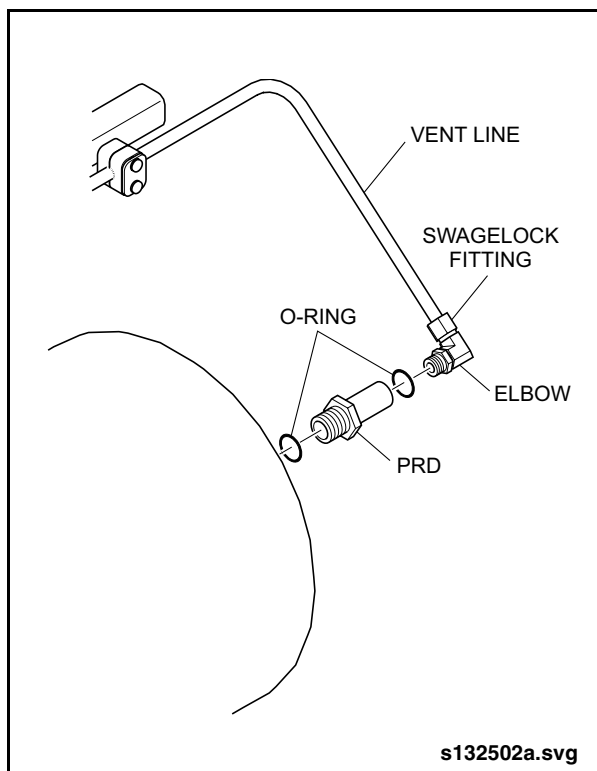

Fig. 2: Tank-End PRD Installation
- PRD's installed directly in the threaded boss of the tank end opposite the solenoid valve. These PRD's are connected to the vent line with an elbow. See "Fig. 2: Tank-End PRD Installation" on page 7.
2. Loosen the Swagelok® fittings and disconnect vent line from PRD elbow fitting. See "Fig. 2: Tank-End PRD Installation" on page 7.